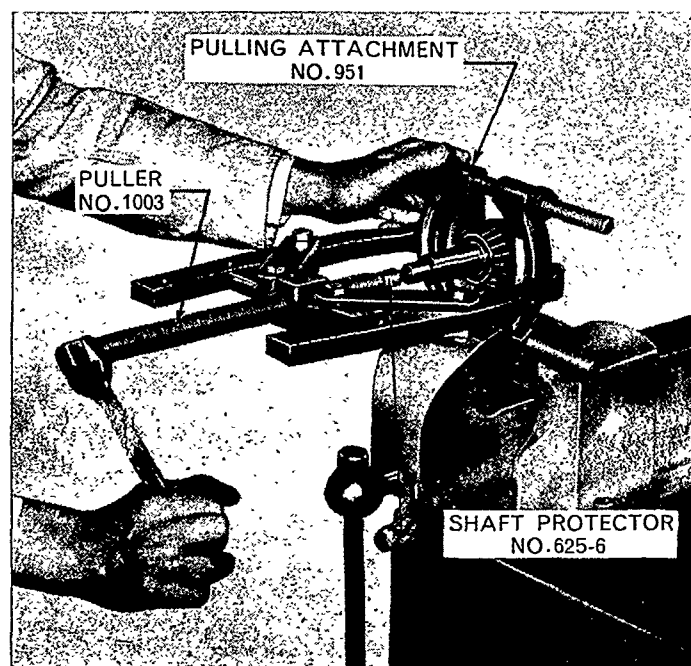

Figure 87
9. Inspect the drive shaft bearing for cracks or scoring. If the bearing is found to be defective remove it from the drive shaft using Tool Bearing Puller No. 1003 and shaft Protector No. 625-6, Figure 87.